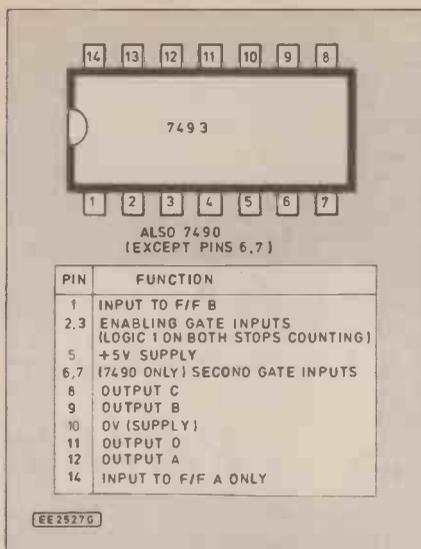

Fig. 6.3. The 4-bit binary counter.
**T** It makes sense now to start with column A on the RIGHT as this is how we normally deal with numbers. Then the right-hand column is UNITS, the next (B) is TWOS, and so on.
**T** Exactly. Let's see the pin-out for the 7493 (Fig. 6.3). Having spotted the power pins 5 and 10, notice that there are four output pins, as expected, but only two in-